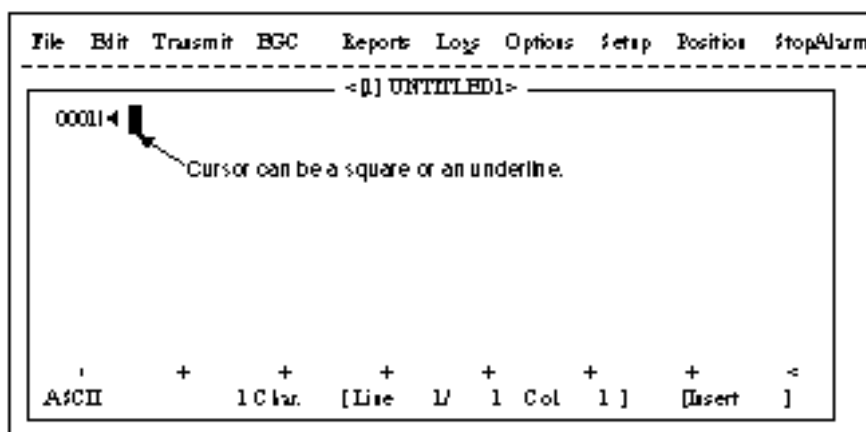

Figure 3-2 Text editor screen
2. Press [1] to select New. The display should now look something like Figure 3-2.